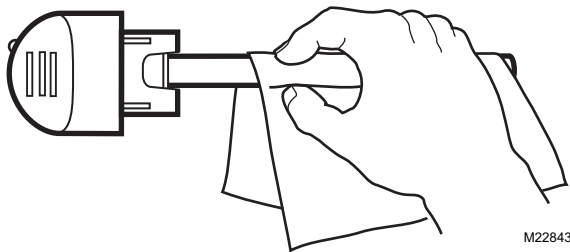

Fig. 7. Use cloth to wipe fingerprints from glass.
10. If you touch the lamp glass with your hands, use a cloth to wipe fingerprints from the glass. See Fig. 7.